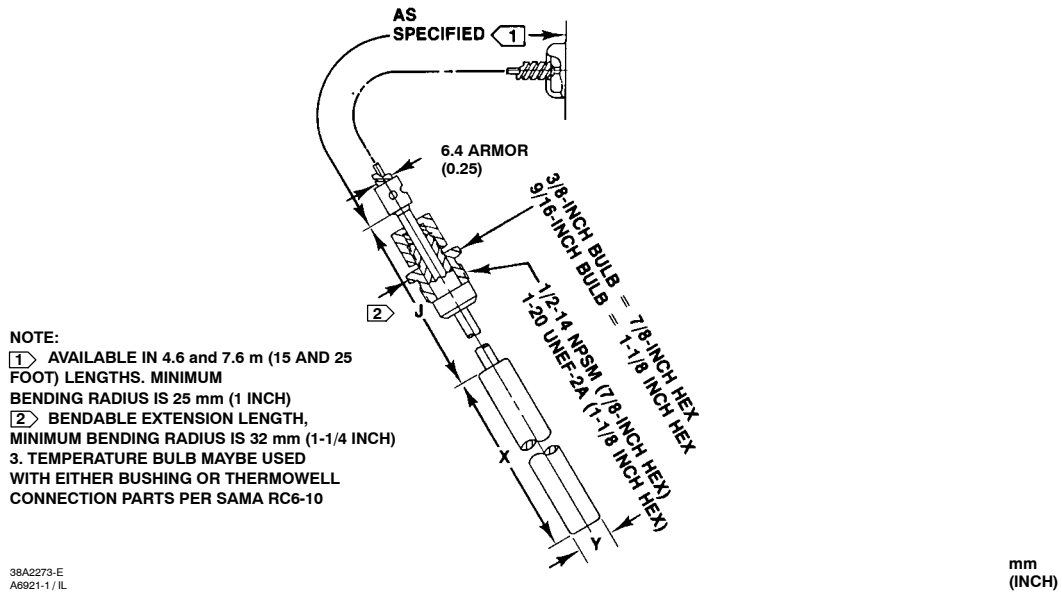
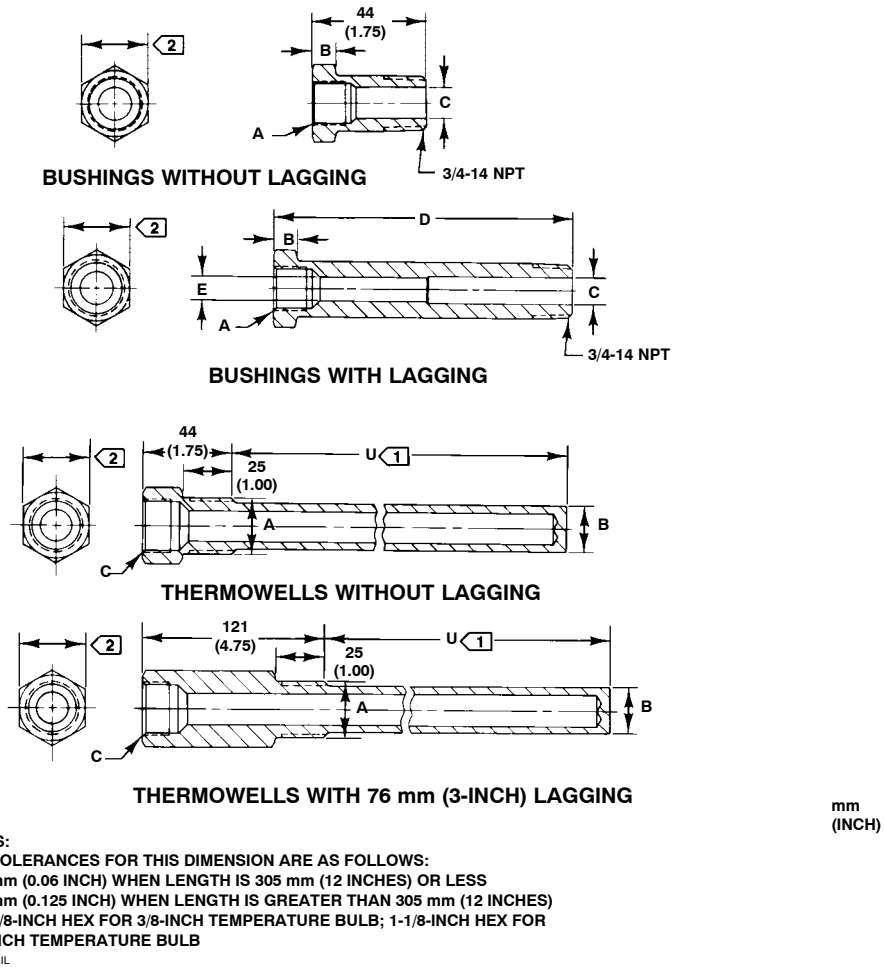

Figure 7. Dimensions for Temperature Bulb with Adjustable Union (also see table 5)
Figure 8. Bushing and Thermowell Dimensions (also see tables 6 and 7)
When installing a controller, the vent must point down. When the temperature bulb (dimensions shown in table 5 and figure 7) is used within a closed vessel, the bulb screws into a bushing (see figure 8) that penetrates the vessel. Where pressure within the closed vessel exceeds the limits of the
temperature bulb or when the process fluid is corrosive, the temperature bulb screws into a thermowell (see figure 8) that penetrates the vessel. Lag type bushings and thermowells (also shown in figure 8) are used where extra length is required, such as installation in a process vessel that is coated with insulation. Dimensions for bushings and thermowells are shown in figure 8 and tables 6 and 7.
6. Bushing or thermowell. Specify either bushing or thermowell (if required) when the temperature bulb is used in a closed vessel. Refer to figure 8 for available sizes. Specify straight-shank or tapered-shank thermowell. Tapered-shank thermowells, with their high strength-to-weight ratio,